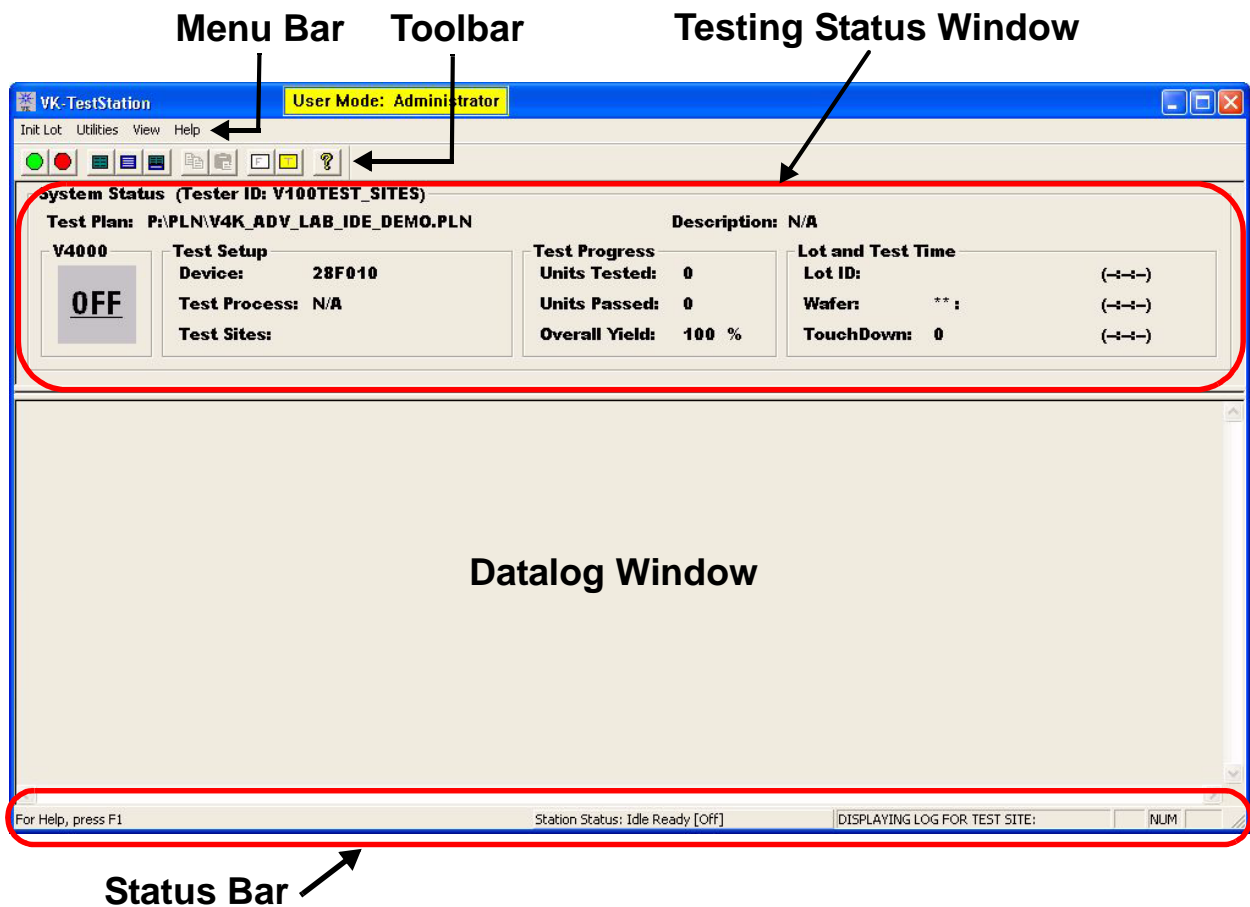

Figure 7-31. VK Test Station Main Window
- 1 Selecting  > Programs > Versatest Test System Software > VK Test Station displays the VK Test Station main window (similar to Figure 7-31).